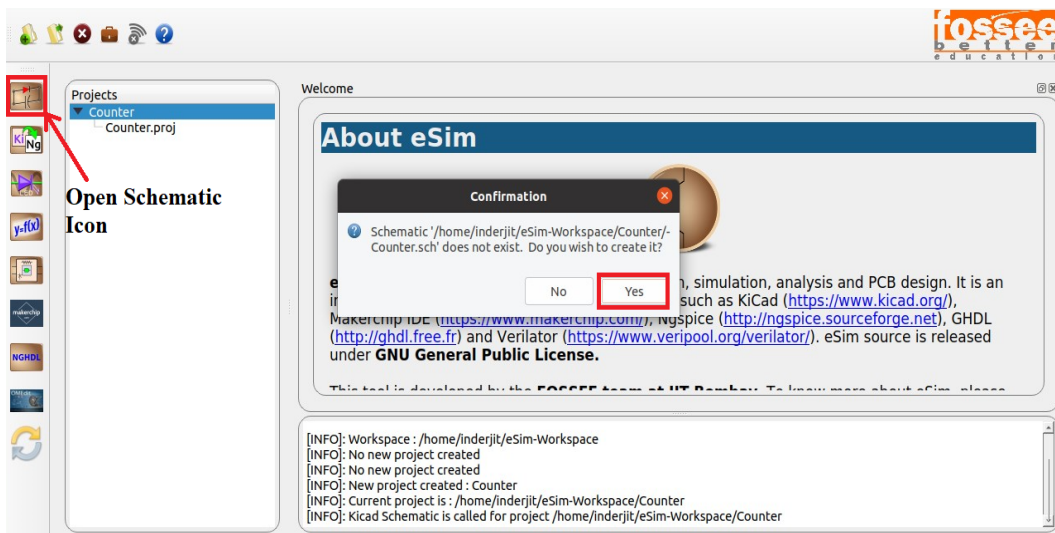
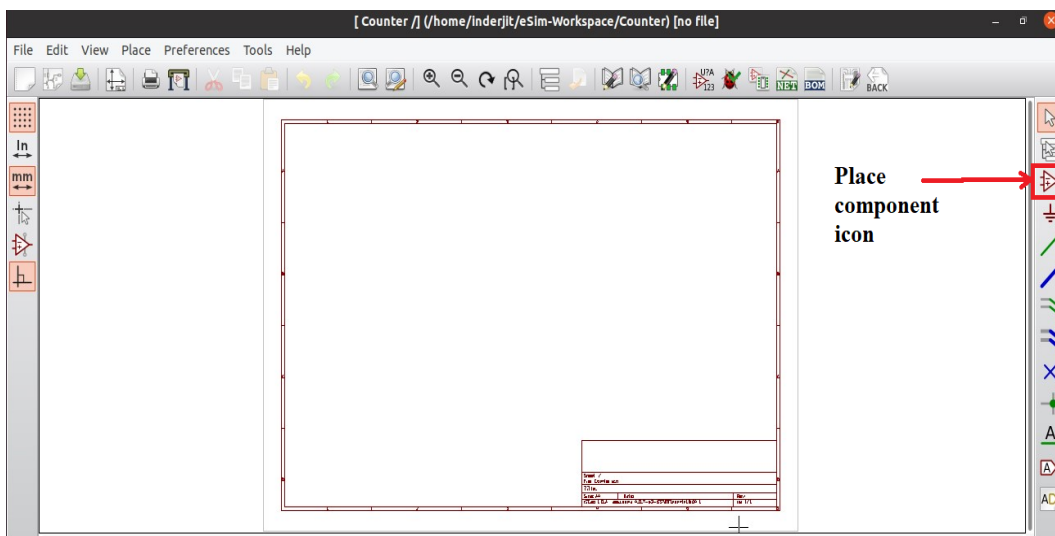
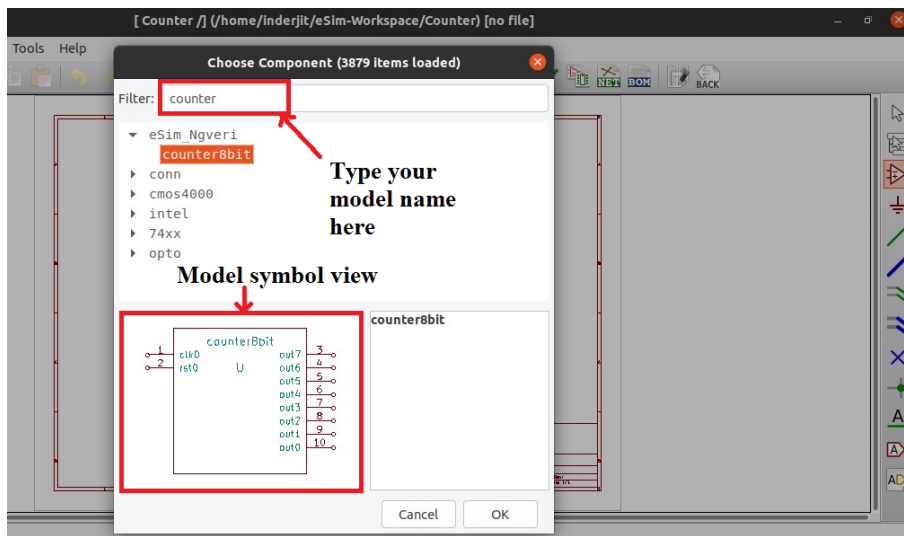
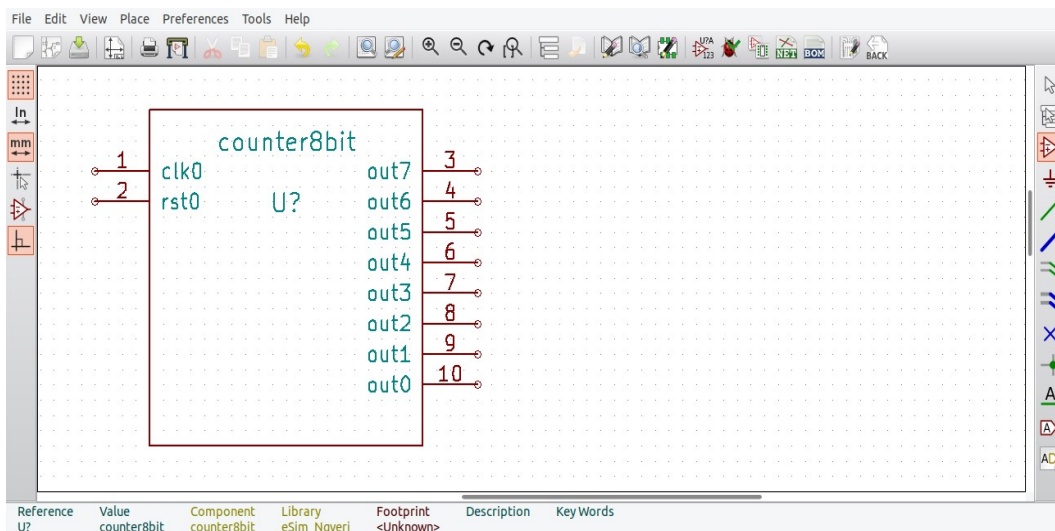

Figure 10.27: Creation of new schematic in eSim
Figure 10.28: Blank schematic created in eSim
Figure 10.29: Locating the model in library
Figure 10.30: Placement of component in Schematic Editor
2. After successful creation of NgVeri model using the Verilog code, you can create the schematic of your design by clicking on **Open Schematic** button on the left pane of the eSim window as shown in Fig. 10.27. A confirmation pop-up window appears. Click on **Yes** to create a new schematic. A blank schematic created is shown in Fig. 10.28
3. Next step is to click on **Place component** icon to place the components in the schematic editor as shown in Fig. 10.28.
4. To locate the components in eSim library, click on **Place component** icon as shown in Fig. 10.28. A pop-up window named **Choose Component** appears. User can type component name in the space as shown in Fig. 10.29.
- In this example, counter8bit model is created under eSim NgVeri library. The model view is visible with two input pins reset and clock and 8 output pins from out0 to out7 as shown in Fig. 10.29. Click on **OK** to place the component on the schematic editor as shown in Fig. 10.30.